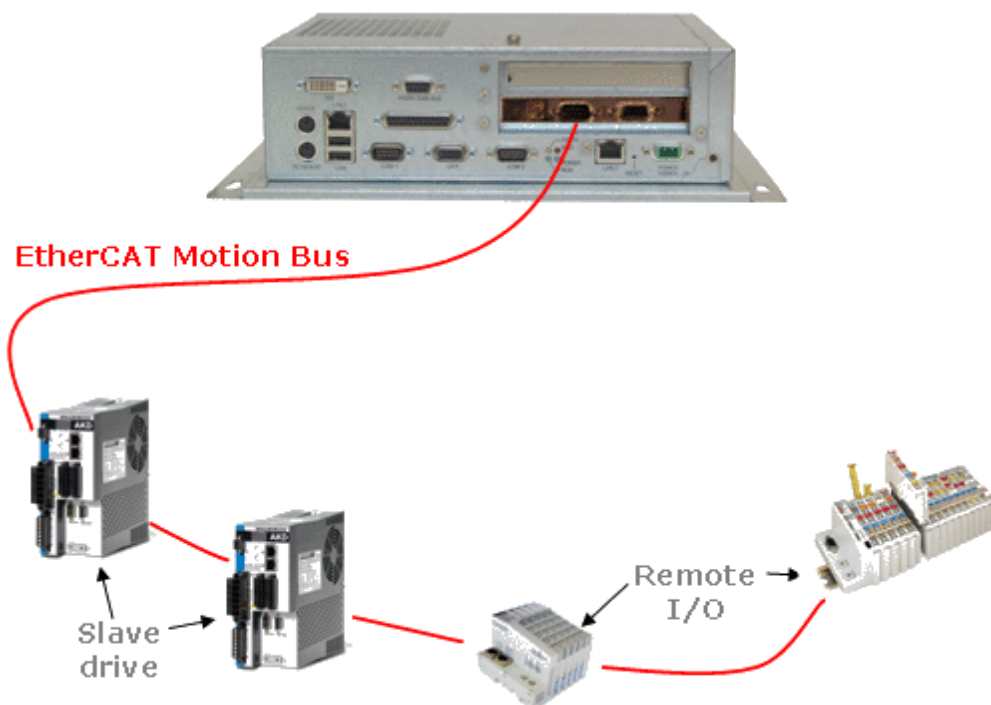

Figure 4-13: EtherCAT Network - Physical View
- Discover the devices physically present in the fieldbus network (see "Figure 4-13: EtherCAT Network - Physical View " on page 166)